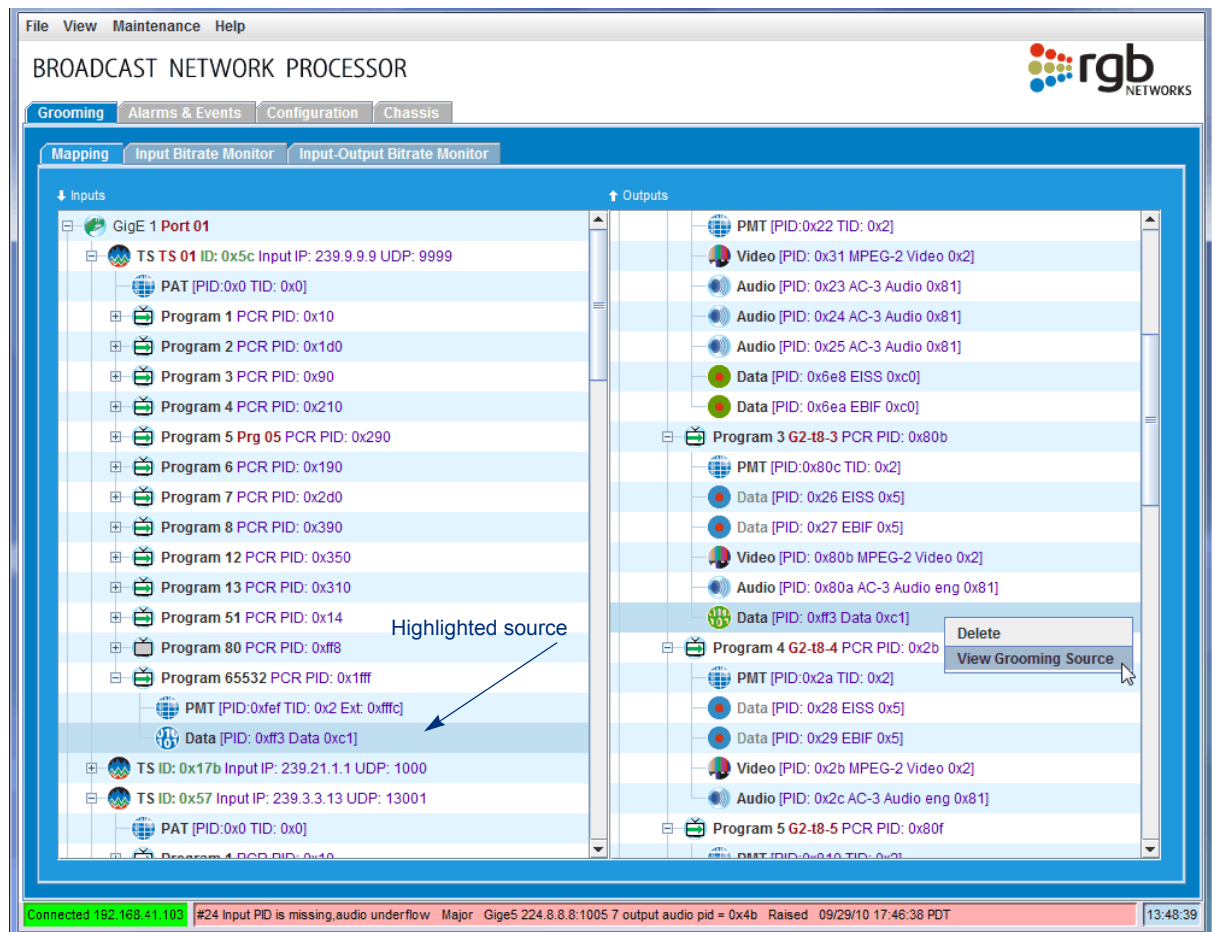

Figure 100. Viewing ES-level input source
1. Expand the desired program whose ES you wish to view on the **Outputs** (right-hand) side of the screen (Figure 100).
2. Right-click the desired ES under the program on the **Outputs** (right-hand) side of the screen (Figure 100).
4. Observe the highlighted grooming source from the Inputs (left-hand) side of the screen (Figure 100).